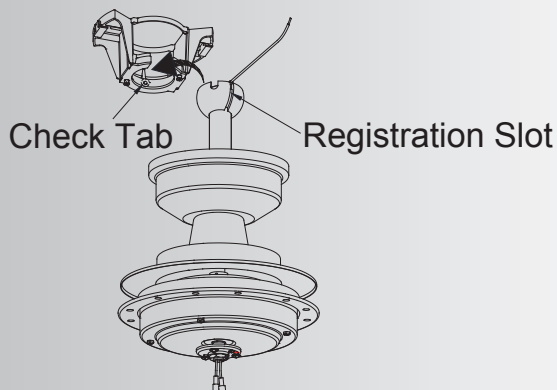

Fig. 9
**Step 5.** Now lift the motor body into position and place the hanger ball into the hanger bracket. Rotate until the "Check Tab" has dropped into the "Registration Slot" and seats firmly. ( Fig. 9) The entire motor body should not rotate if this is done correctly.